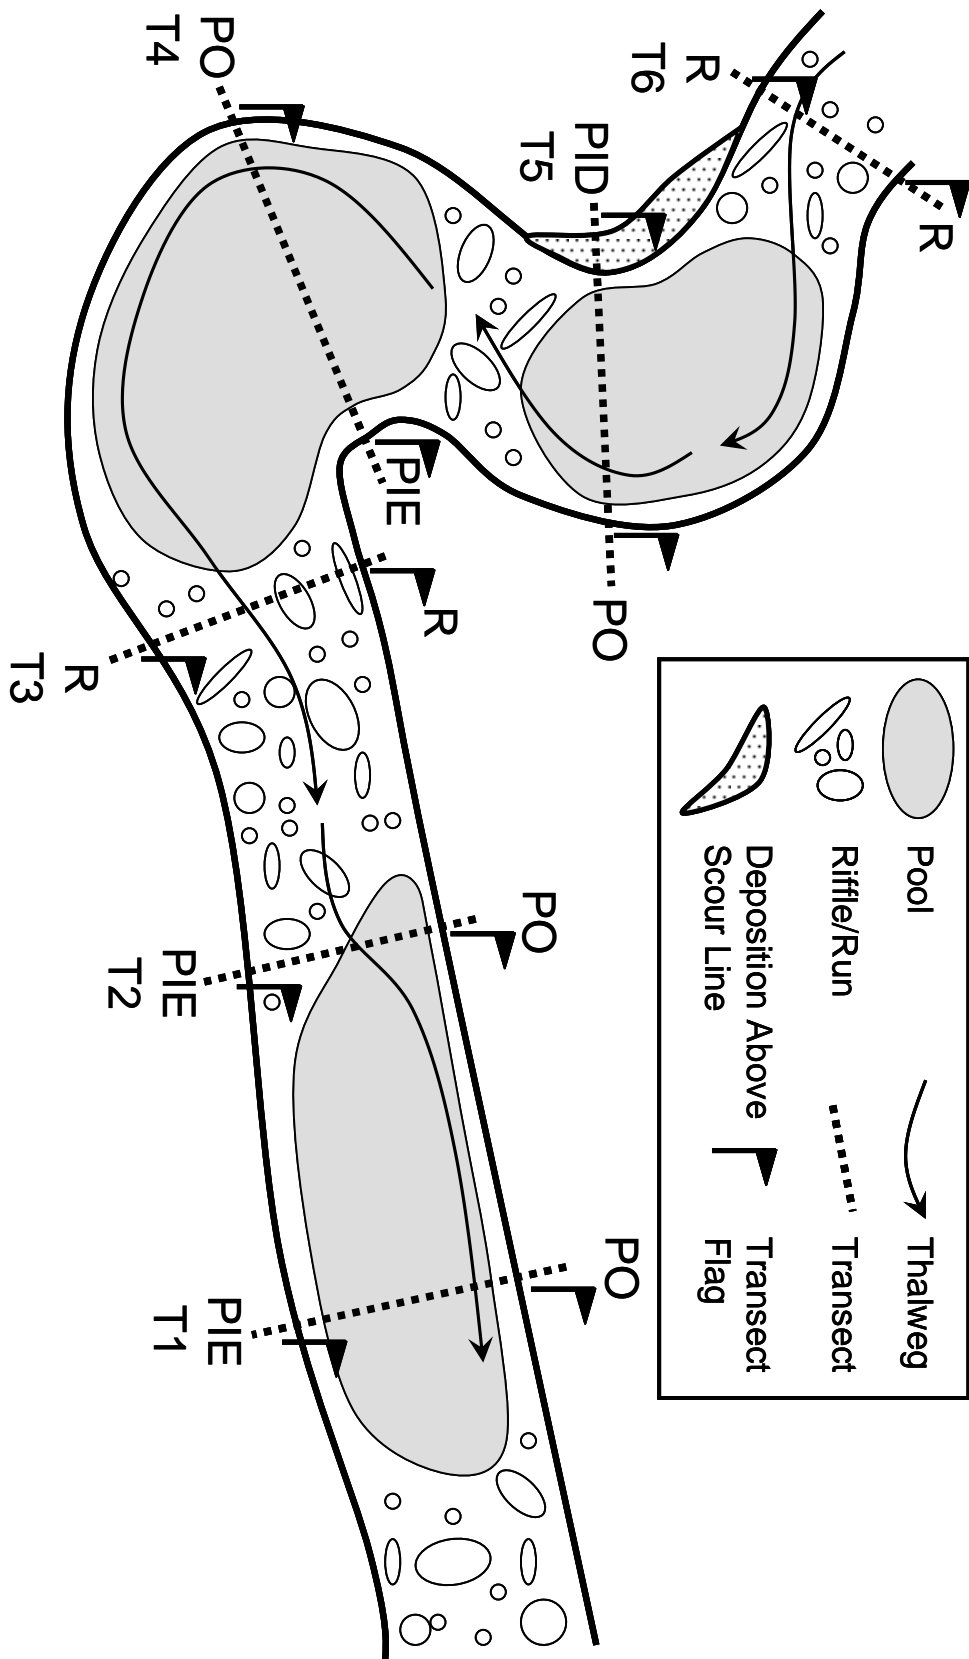

Figure 40: Example of stream showing the four classification categories for bank type.
Defining the processes that creates the streambank condition at each location is integral to understanding bank stability, bank angles, and undercut bank measurements. Classify the streambanks into 1 of 5 categories based on association with erosion or deposits, pool or non-pool habitat units, and the relation to the thalweg (Figure 40). Also identify transects where data is collected in beaver pools.
3. If the pool occurs in a straight stretch of channel, measure from the thalweg to the bankfull elevation on both banks. The bank closer to the thalweg is “pool outside” while the bank further from the thalweg is “pool inside” (Transects 1 & 2 in Figure 40).
4. Streambanks on the inside of pools are further delineated as erosional or depositional. Erosional banks have no deposition or the deposition is below the SL are classified as “PIE” for pool inside, erosional (Transects 1, 2 & 4 in Figure 40). Depositional banks that have deposits which extend above the scour line are classified as “PID” for pool inside, depositional (Transect 5 in Figure 40).
6. In situations near a pool head or tail or side channel, one bank may be within the pool and one in a riffle; use the pool classification for both (Transect 2 in Figure 40). For example, you will never have one bank be ‘PO’ and the other ‘R’.